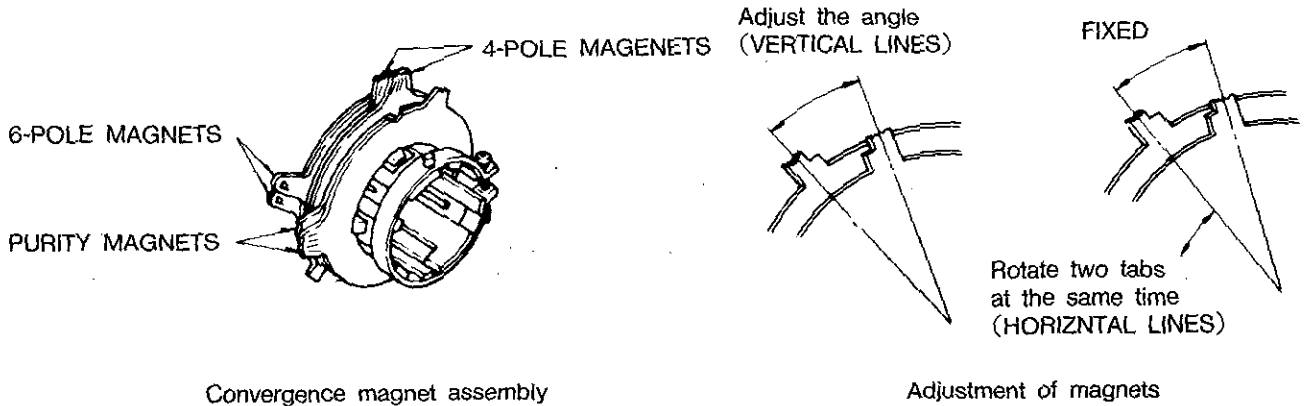

Figure 15
6. Rotate and spread the tabs of the purity magnet(See figure 15) around the neck of the picture tube until the green belt is in the center of the screen. At the same time, center the raster vertically.
3. Adjust two tabs of the 4-pole magnets to change the angle between them(See figure 15) and superimpose the red and blue vertical lines in the center area of the picture screen. (See figure 16.)